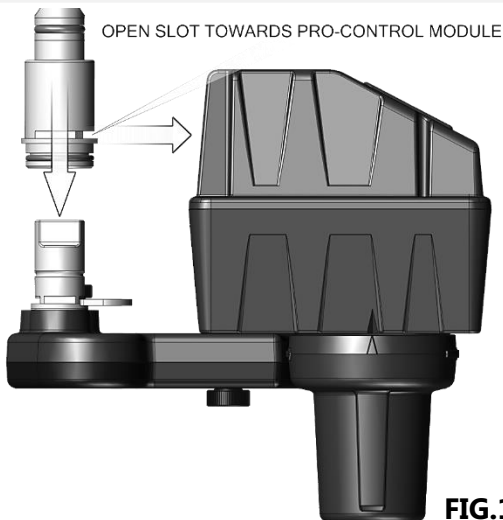

FIG.1.7
3.) Each Center Piston has an open slot for ensuring proper orientation of the piston. Be sure to position the piston towards the Pro-control Module as illustrated. This will ensure that the retainer plate will fully secure the pistons in place **FIG.1.7**.